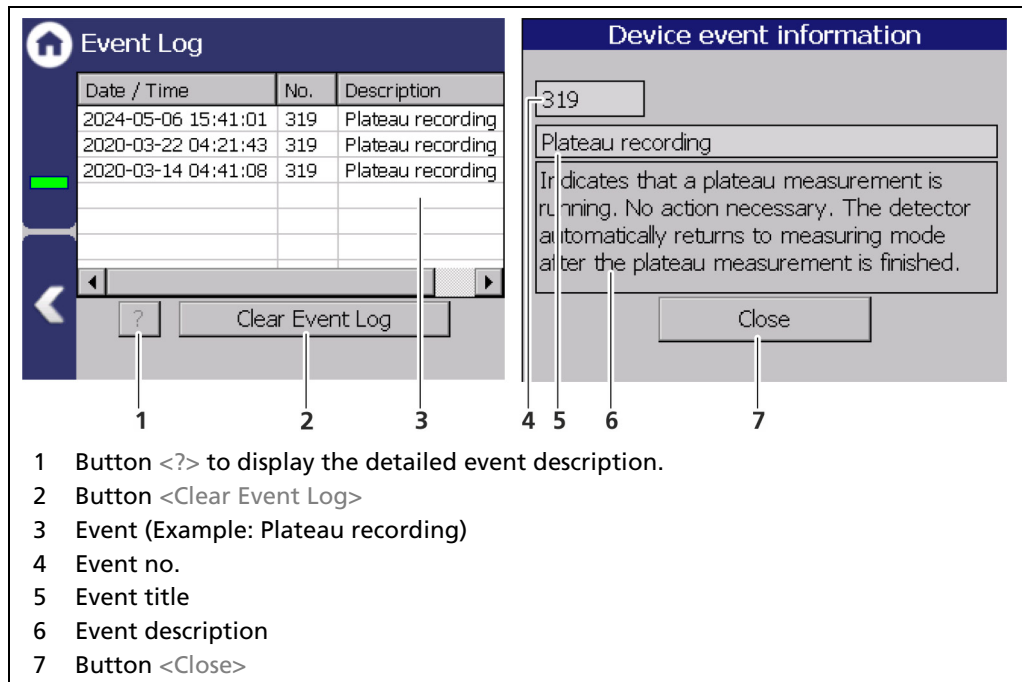

Fig. 58 Event Log
This menu shows you the type of detector (Fig. 58, item 1) as well as an overview of the software version (Fig. 58, item 2, item 3) of the detector.
3. The USB storage device is recognized by the system after a few seconds and the <Firmware Update> (Fig. 58, item 4) button can be clicked.
4. Click on the button <Firmware Update> (Fig. 58, item 4).
- ▶ A warning message appears (Fig. 58, item 5).